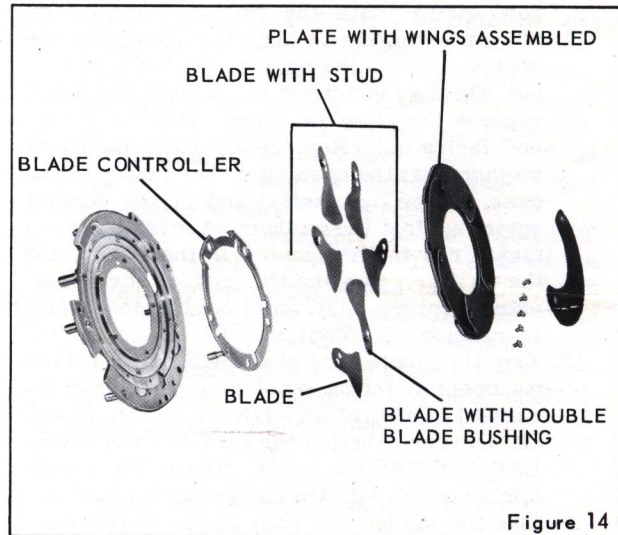
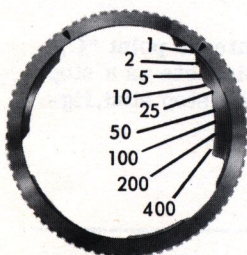
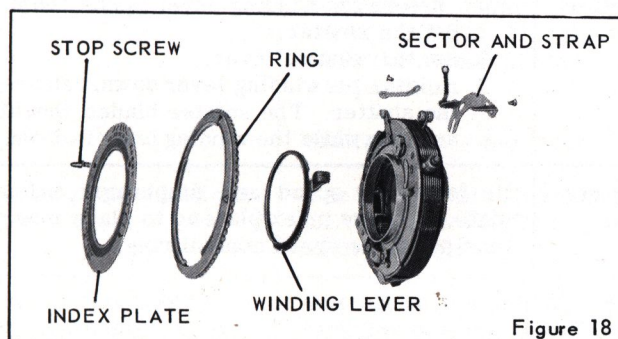

Figure 14
Figure 17
Figure 18
14. BLADE CONTROLLER, figure 14.
3. **BLADE WITH DOUBLE BLADE BUSHING** and stud, figure 14, with the hole in the blade over the stud near the **BLADE CONTROLLER LUG**, figure 17, on the mechanism plate.
4. Proceeding counterclockwise, replace four **BLADES WITH STUD**, figure 14, allowing the wide end of each blade to overlap the narrow end of the preceding blade.
Excessive retard sector travel.	Swedge the speed control RING, figure 18, at the area controlling the slow speed. (See figure 17.)
The winding lever may be binding around the central opening of the cover or on the speed INDEX PLATE, figure 18.	Replace the winding lever. Try lubricant.
2. Focusing mount STOP SCREW, figure 18.